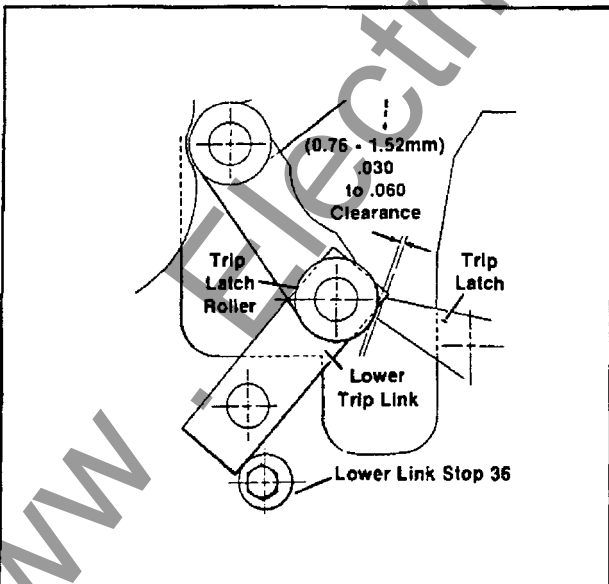

Figure 11. Trip Latch Clearance Adjustment
**Trip Latch Clearance Adjustment (Fig. 11)** — This adjustment is to be performed after completing the arcing contact touch and main contact penetration adjustments referenced above.